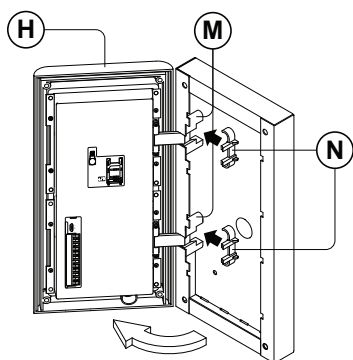

Fig. 56
7. Next open the module support frame **(H)** and clip the hinge locks **(N)** to the hinge mounts **(M)** , following the guide arrows, as shown in **Fig.56**;